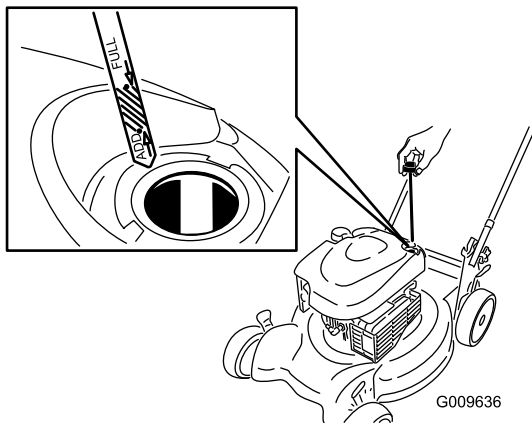

Figure 22
2. Remove the dipstick (Figure 22).
4. **Slowly** pour oil into the oil fill tube until the oil level reaches the **Full** line on the dipstick (Figure 22). **Do not overfill.** (Max. fill: 20 oz. (0.59 l), type: SAE 30 detergent oil with an API service classification of SF, SG, SH, SJ, SL, or higher.)